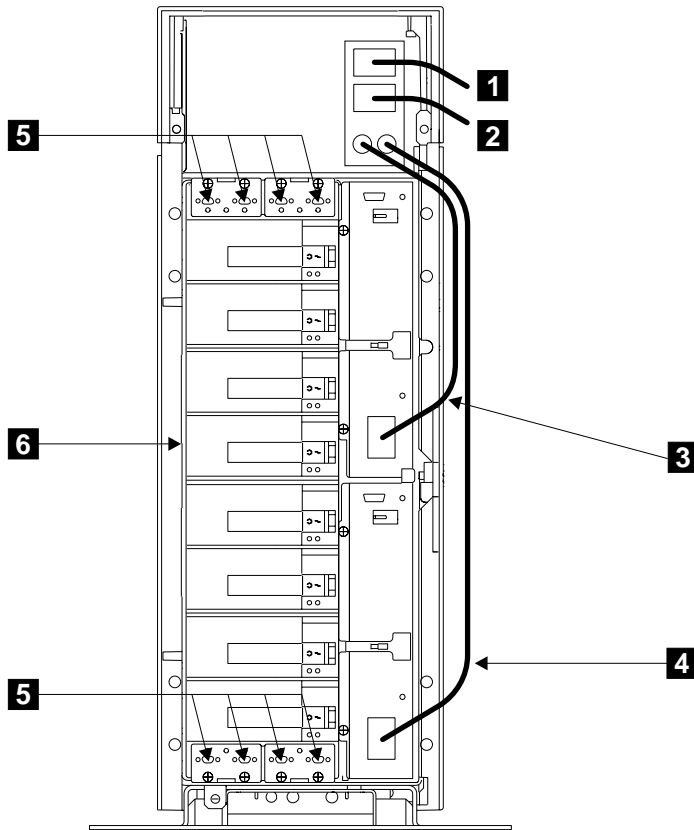

Figure 40. Power Cables and SSA Sockets (Model T40)
1. Refer to Figure 40.
8. Check for continuity between the **frame of the 7133** (**6** in Figure 40 on page 69) and the **ground pin** of each power cable.
16. Unplug the short cables ( **3** and **4** in Figure 40 on page 69), and check for continuity between the **frame of the 7133** and the **ground pin** of the power connector on each power supply assembly (see Figure 19 on page 34).